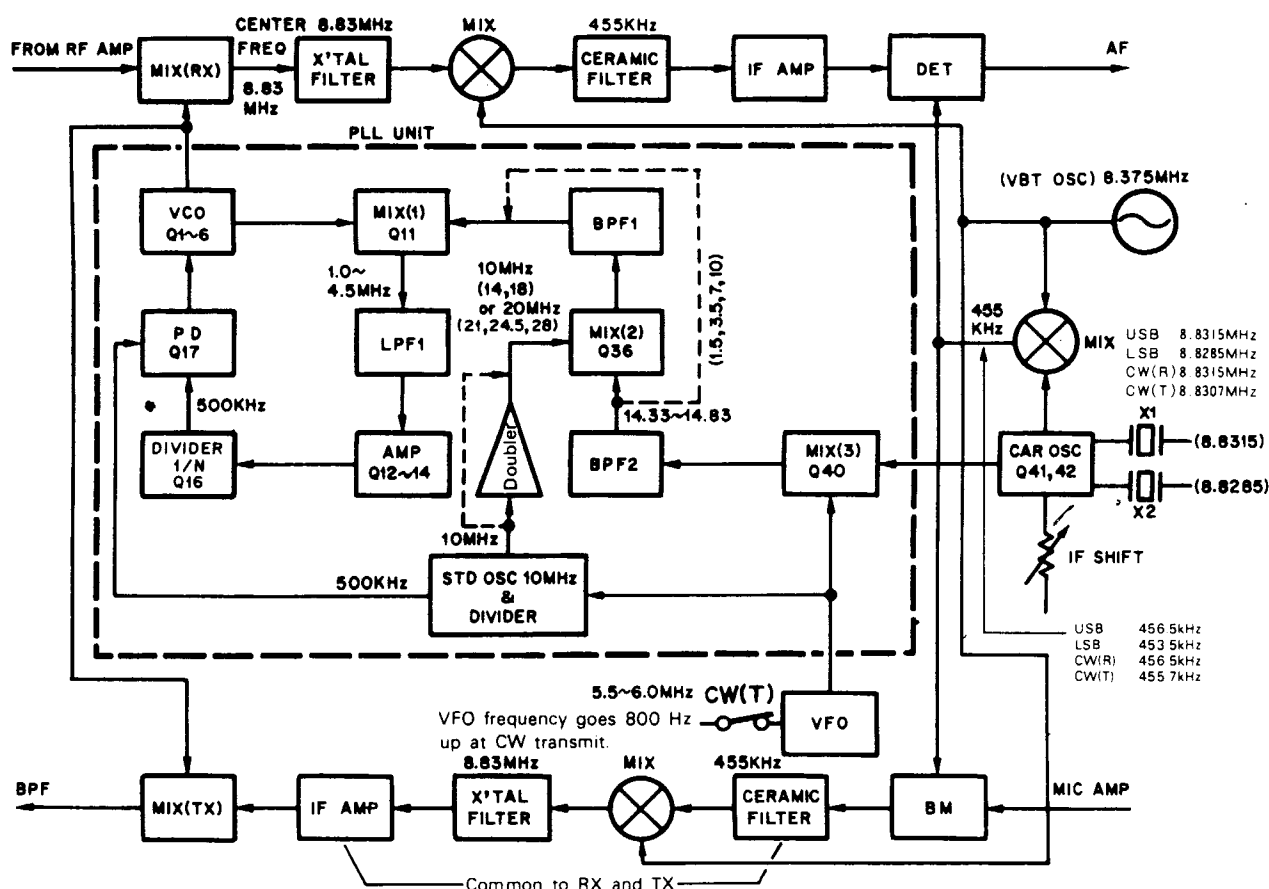
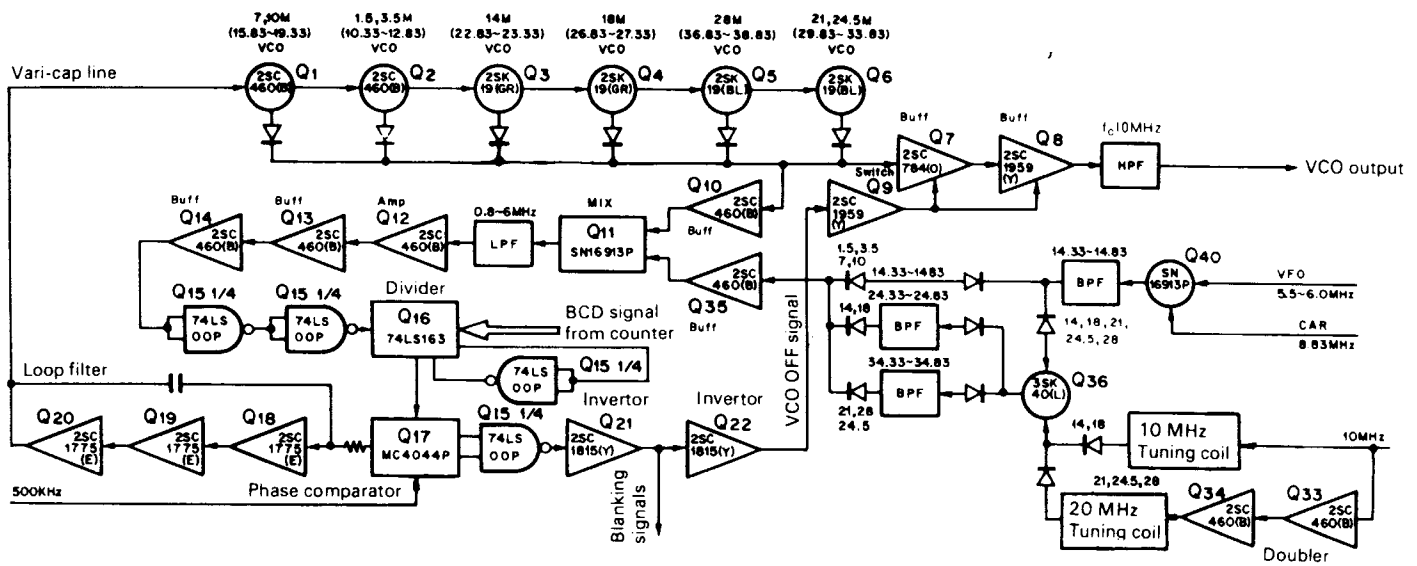

Fig. 1 TS-830 Frequency configuration
Fig. 2 TS-830 PLL circuit configuration
Frequency organization of the PLL circuit is shown in Figure 1, the circuit diagram in Figure 2, and frequency organization in other circuits is summarized in Table 4. Please refer to Figure 1 when reading the following description on PLL circuit operation. MIX (3), a double balanced mixer, mixes the CAR output with the VFO output. MIX (2) which operates in 18 MHz bands and above, mixes either 10 MHz, in the 14 and 18 MHz bands, or 20 MHz, in the 21, 24.5, and 28 MHz bands, with the output of MIX (3) to generate the appropriate frequency needed for each band, as shown in Table 4.
The CAR oscillator is composed of an oscillator and two quartz crystals. The output frequency in each mode is given in Figure 1. During reception, this frequency can be varied by the IF shift.